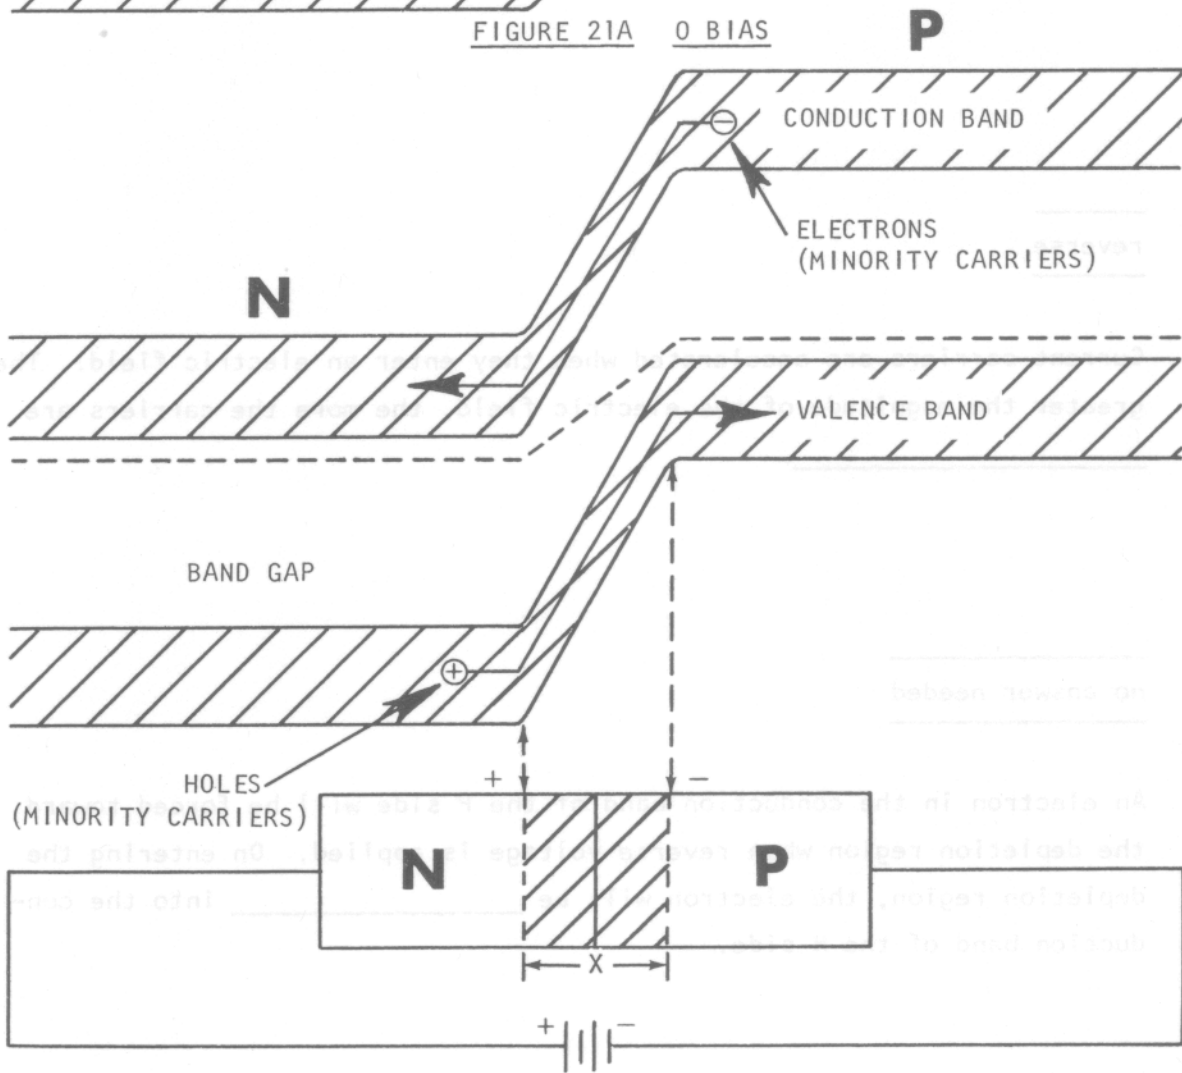

FIGURE 21B REVERSE BIAS
21.23 The area indicated by the X in figure 21B is the depletion region. Minority carriers are accelerated across the junction by the reverse bias when they enter the _____ region.